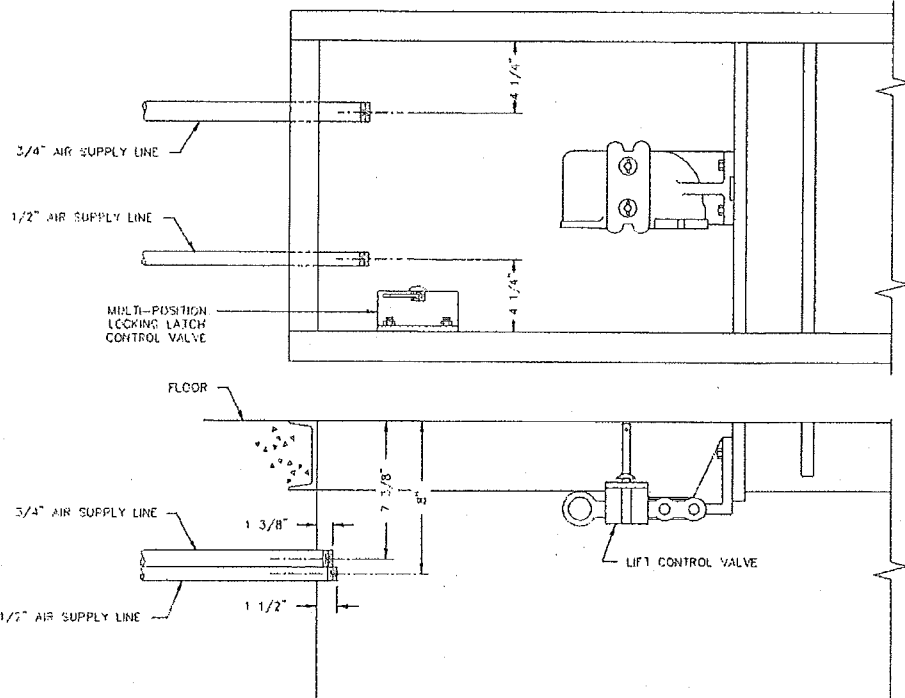

Fig. 4
- For lifts with hydraulic tanks, Fig. 4.